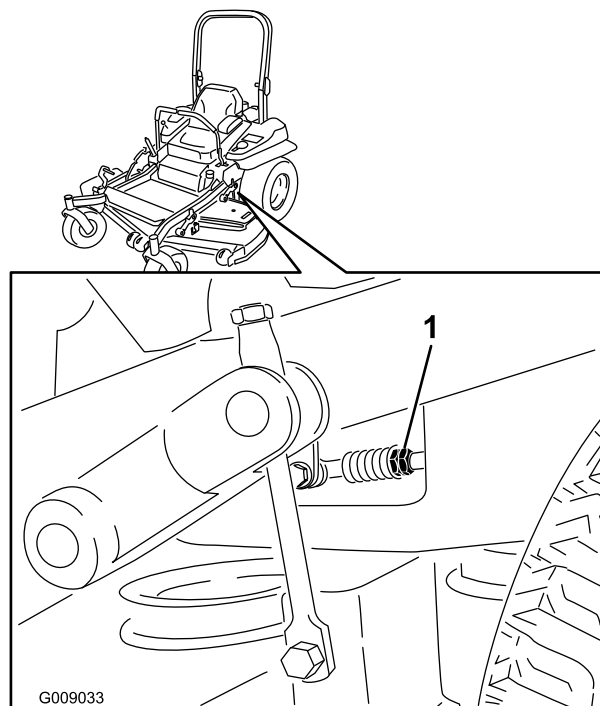

Figure 84
9. Adjust the pump control rod lengths by rotating the double nuts on the rod in the appropriate direction until the wheels slightly creep in reverse (Figure 84).